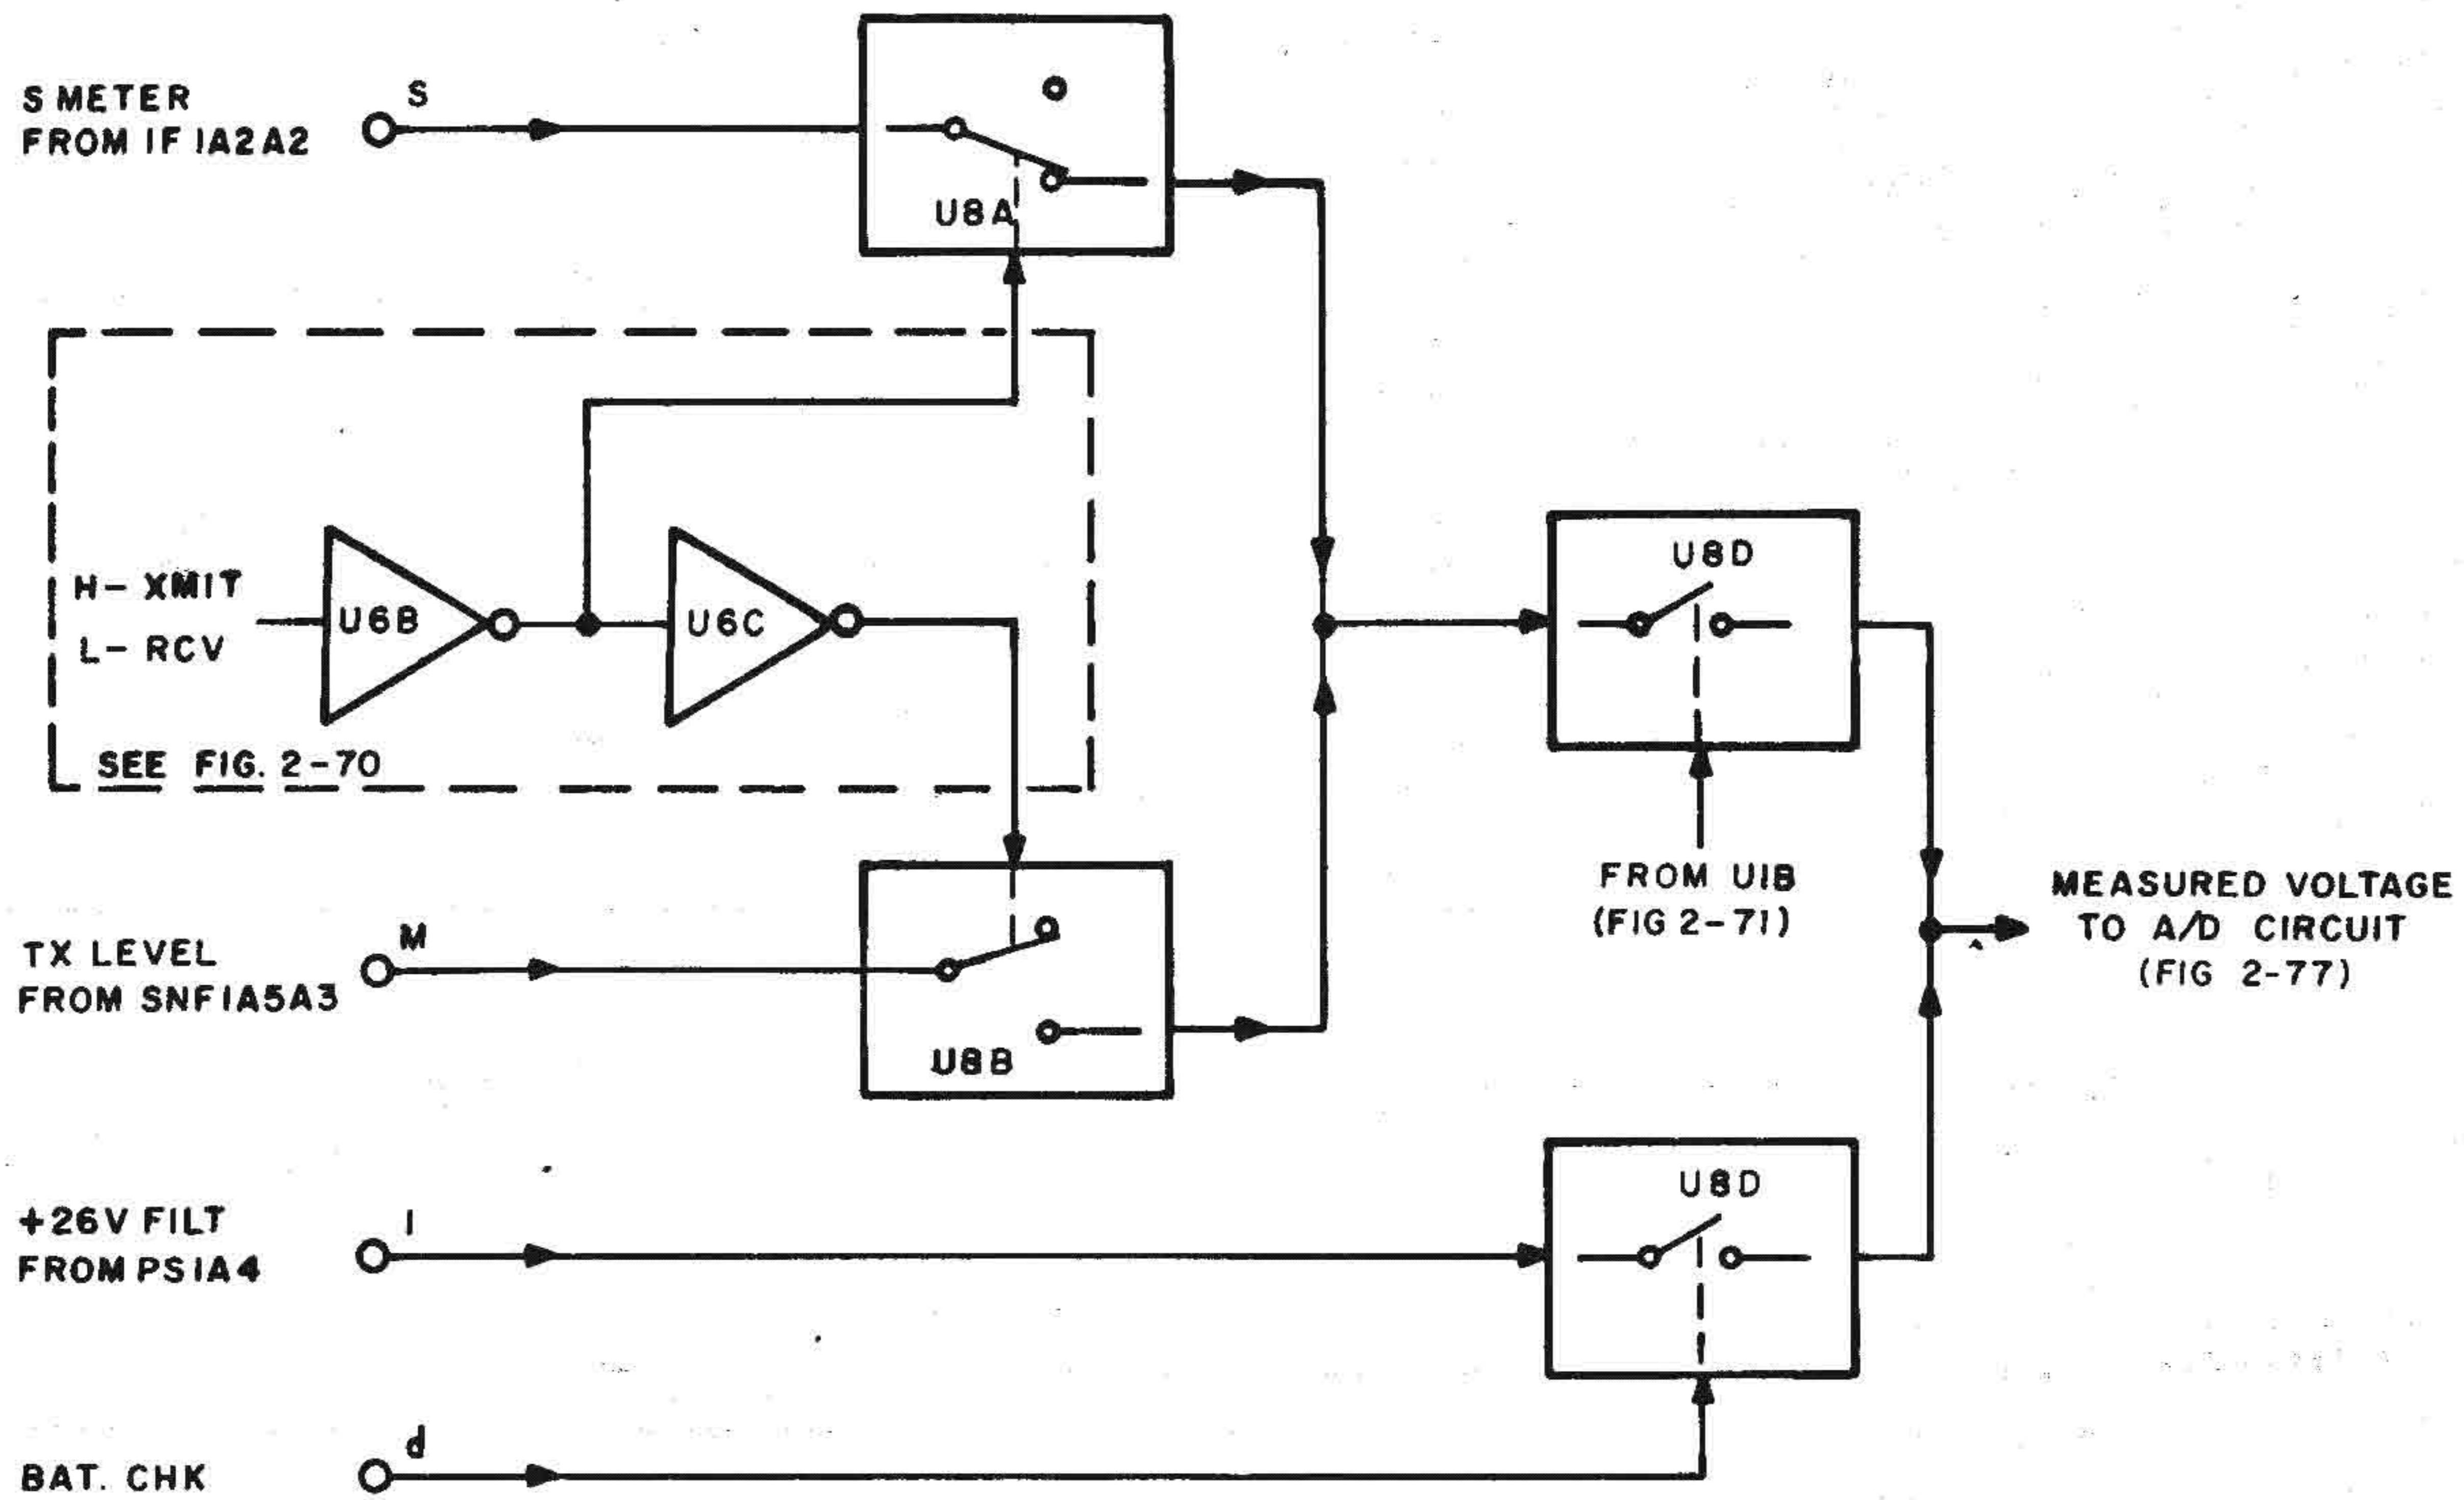

Fig. 2-76. A/D converter, input selector simplified circuit diagram
(8) A/D converter (fig. 2-76 through 2-79).
(a) Input selector (fig. 2-76). The input selector receives the TX LEVEL, S-METER, and primary DC voltage and selects one of them for application to the A/D converter.